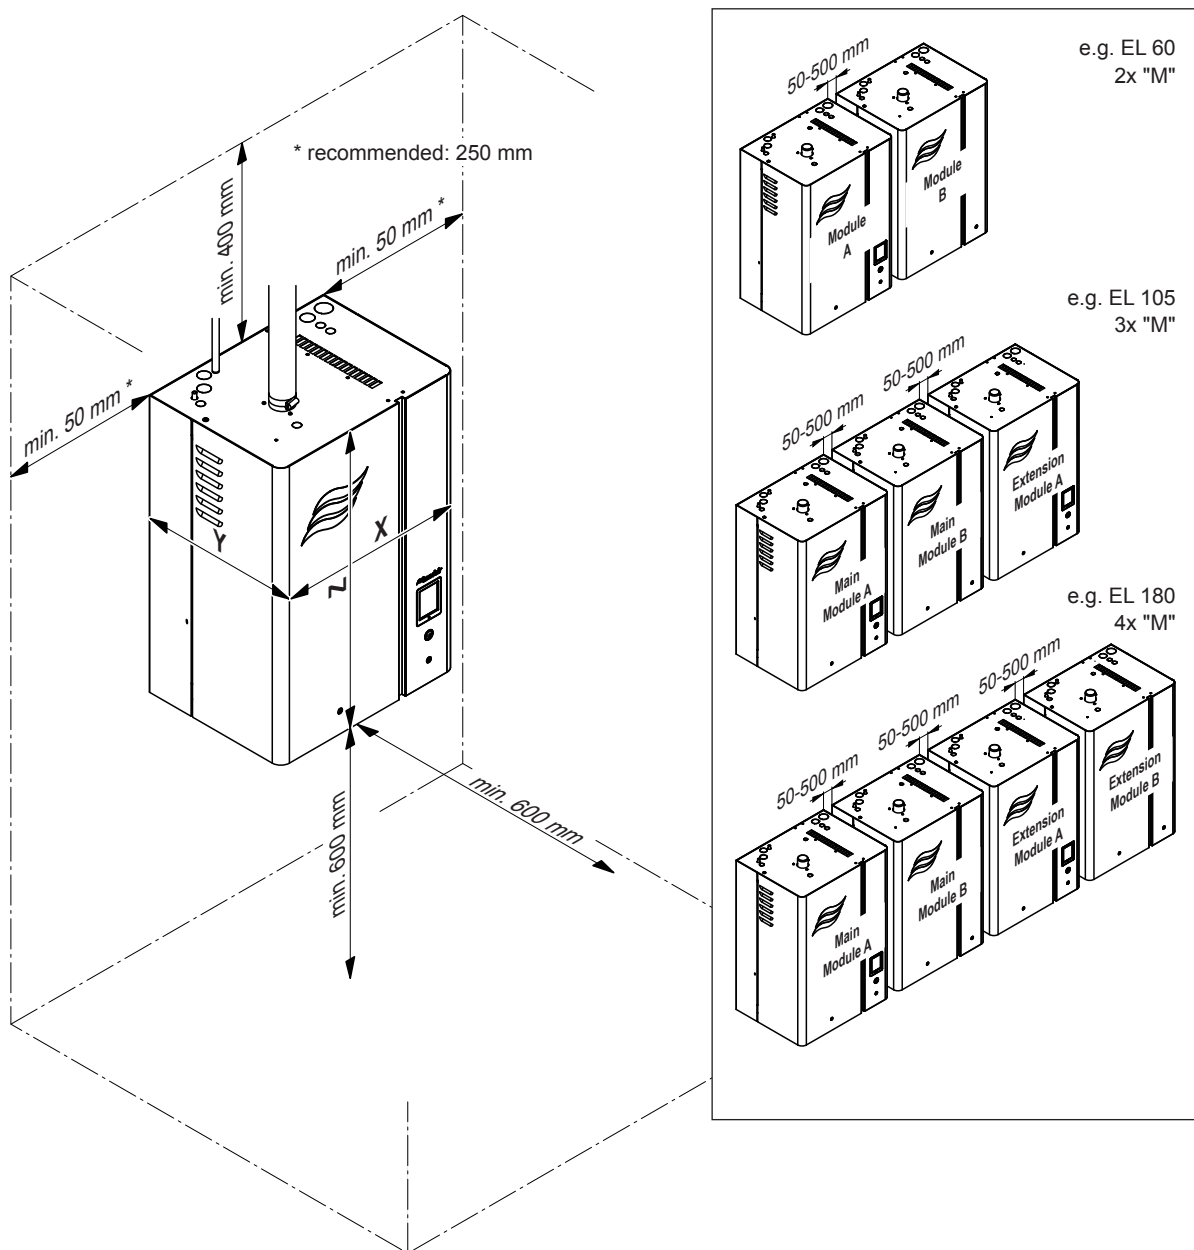

Fig. 9: Distances to be observed
- Install the Condair EL in such a manner that it is **freely accessible** with sufficient space available for maintenance purposes. The **minimum distances** shown in Fig. 9 **must be maintained**.
- In order to use the cables supplied with double units and Linkup systems, the unit must be mounted on the same height, with a distance between the units of min. 50 mm to max. 500 mm and in the order shown in Fig. 9.